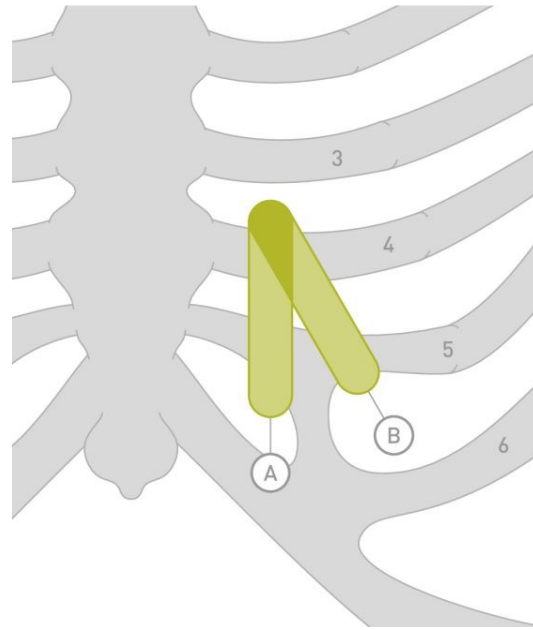

Figure 52: Two recommended positions for the placement for BIOMONITOR III
BIOMONITOR III has been developed to be inserted in a close-fitting subcutaneous tunnel, preferably in or around the left side of the chest. Recommended locations are those areas close to the heart where the implant will be exposed to minimal movement from body positional changes or from arm movement. Suitable implant locations are shown below in Figure 52. In position A, a location between the suprasternal notch and the left nipple is shown. Position B shows an implant location of approximately 45° with respect to the midline. The choice of placement location is to be decided by the physician, on the basis of individual patient anatomy and comfort, as well as cosmetic considerations. The insertion process consists of four (4) intuitive steps: Incision, Tunneling, Unlocking and Retraction, see Table 7.